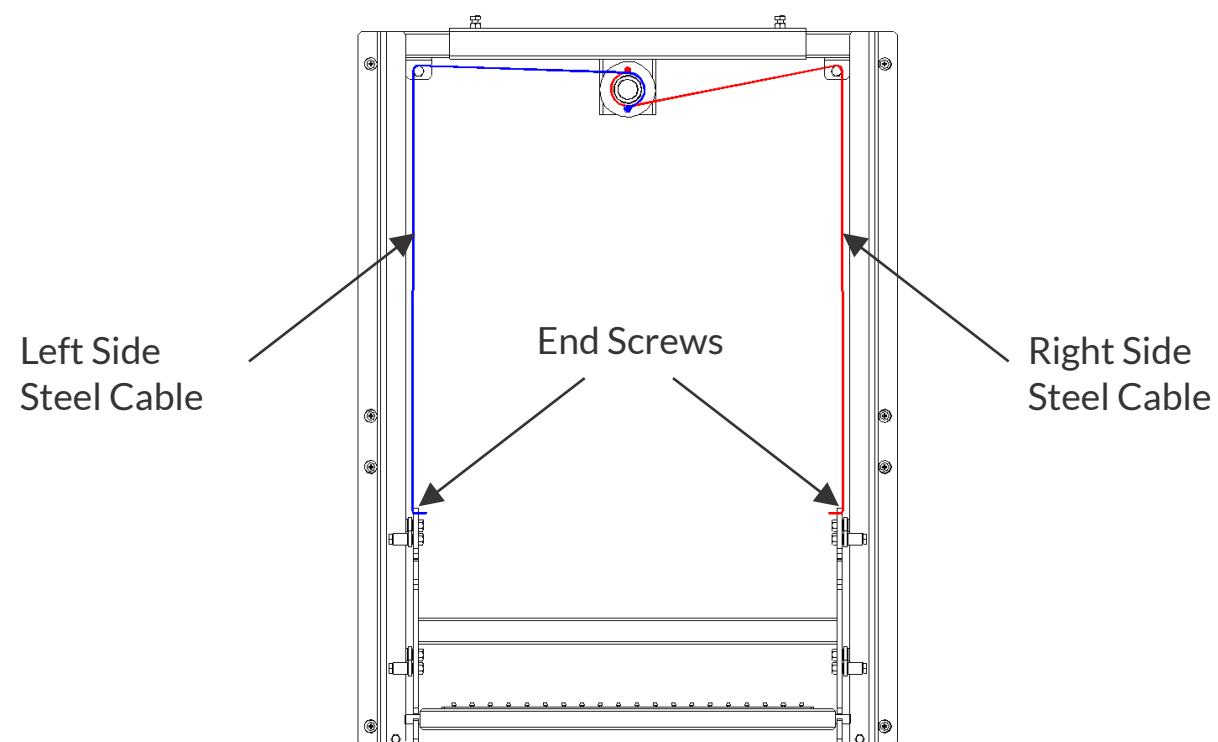

Figure 15
a) One of the most important points is the installation of the Steel Cables responsible for the up and down movement of the grill(s) in your equipment. They should be passed with the fixed end through the hole in the Traction Pulley (Figure 15).